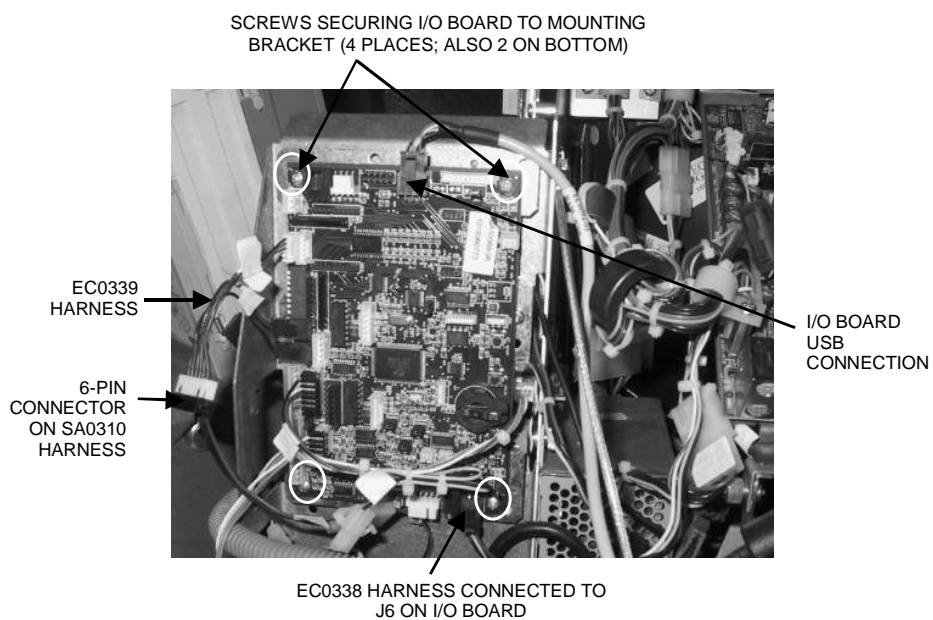

FIGURE 8 - NEW I/O BOARD IN RADION GAME
8. Line up the supplied fish paper on top of the mounting bracket. Align the provided I/O board on top of the fish paper, and secure to the mounting bracket using the 4 provided screws. See Figure 8.
9. Connect the free 4-pin connector on the EC0338 harness to J6 on the new I/O board. See Figure 8.
10. Connect the free 6-pin connector on the SA0310 harness to the mating end of the supplied EC0339 harness (see Figure 8).
11. Disconnect the USB cable from the motherboard. This cable will not be reused. Connect the mating end of the supplied USB cable to the USB port on the motherboard, and the other end to J5 on the new I/O board. See Figure 8.